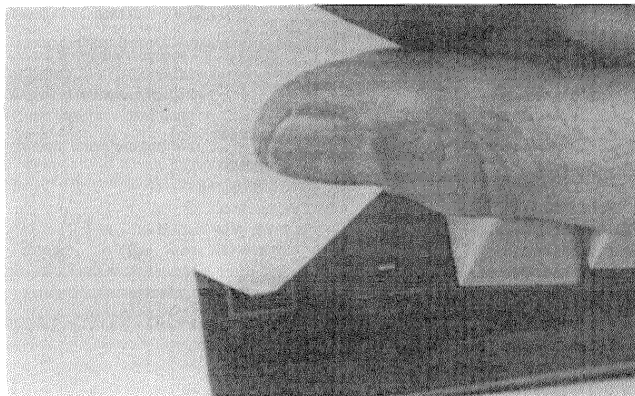

Figure 4-3. Cleaning Key Contacts
- c. Insert the dampened corner between the key contacts, and move it up and down between them a few times. (See figure 4-3.)